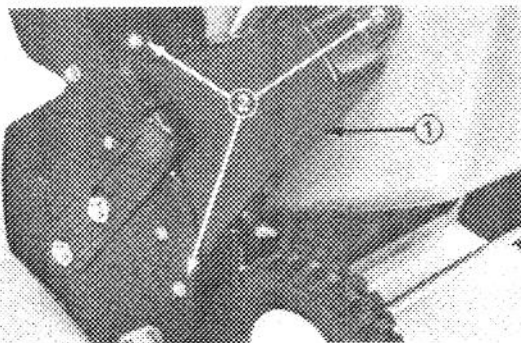

Figure 8
1. Remove chain guard from left-hand side of unit by removing three (3) self-tapping screws (Fig. 8).